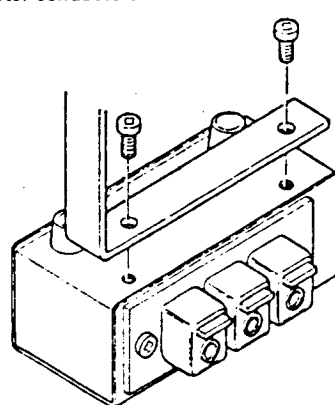

Fig. 1
2. Referring to Figure 1, fix the supplied mounting bracket to the FF-5 with the screws removed in Step 1.